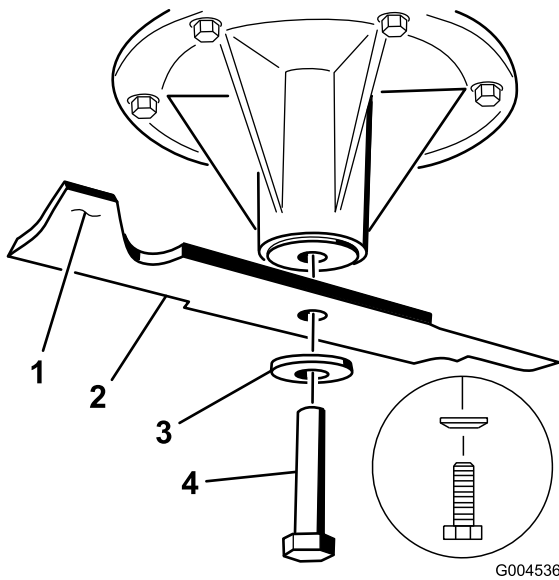

Figure 58
2. For 48 inch mower decks, remove the blade bolt, curved washer, and blade from the spindle shaft (Figure 58).
- Note:** If the blade is not balanced, file some metal off the end of the sail area only (Figure 58).
1. Install the blade onto the spindle shaft (Figure 58).
- Important:** The sail part of the blade must be pointing upward, toward the inside of the mower to ensure proper cutting (Figure 58).
2. For 48 inch mower decks, install the blade, curved washer, and blade bolt (Figure 58).